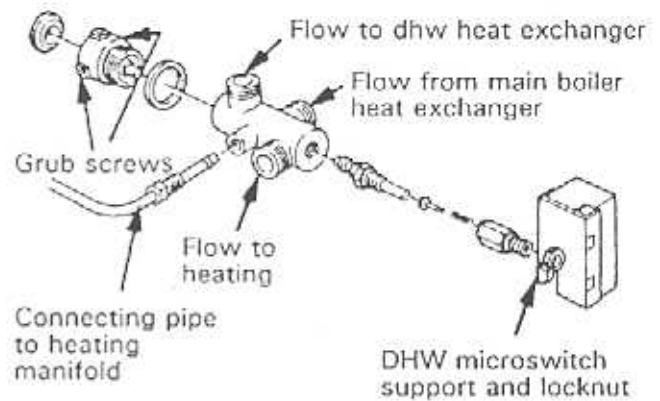

Fig.38
- 8.17.6 Remove retaining nut (fig. 38) and remove micro switch.
Refer to figs.38 & 39
- 8.18.4 Unscrew retaining nut and remove micro switch (fig 38).